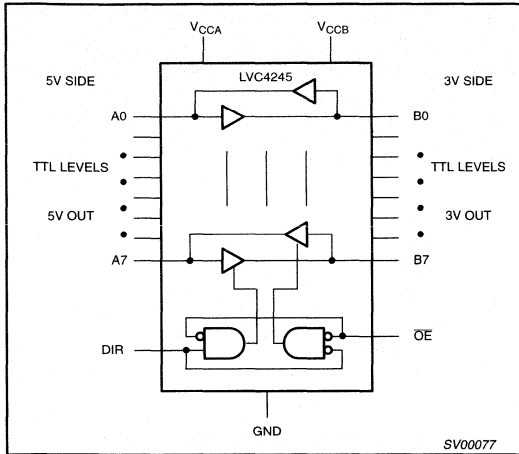

Figure 10. 74LVC4245
**Dual  $V_{CC}$  level shifters** (74LVC4245 and 74ALVC164245, 8 and 16 bits resp.) are CMOS transceivers fed from both 3V and 5V supplies. The level shifting is done internally and the parts have full output voltage swings at both sides (see Fig. 10), making them ideal for level shifting purposes, especially when driving 5V CMOS levels.